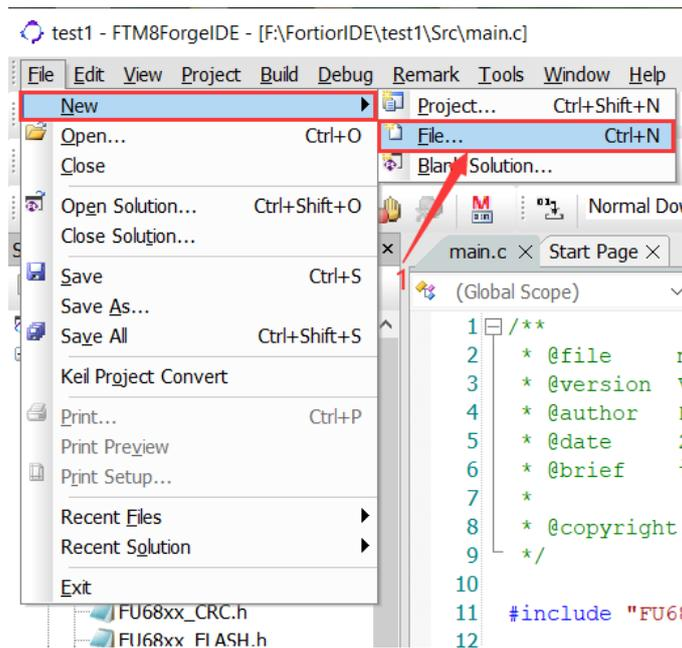

Figure 2-10
Step 1: Select "File" → "New" → "File" in the upper left corner, as shown in Figure 2-10.